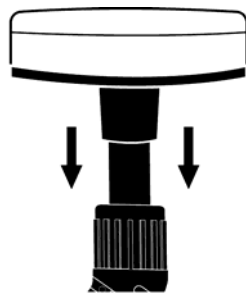

FIGURE 6
1. Place Scrub Pad over tip of Steam Jet Nozzle, and firmly press it as far on to Steam Jet Nozzle as possible to ensure that it is properly sealed (FIGURE 6). This will help prevent any steam leakage.